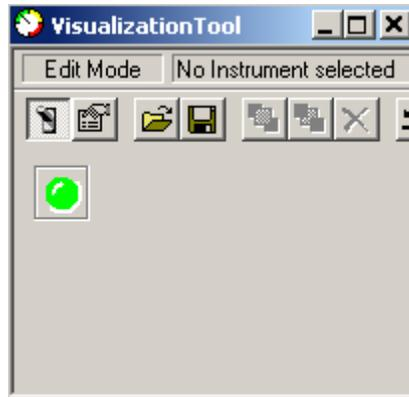

Figure 36. VisualizationTool with LED
- Place the LED in the upper left side of the screen. Use the drag bars around the LED to increase the size. Reduce the size of the screen to for a better look. You must now have a window that looks like Figure 36.